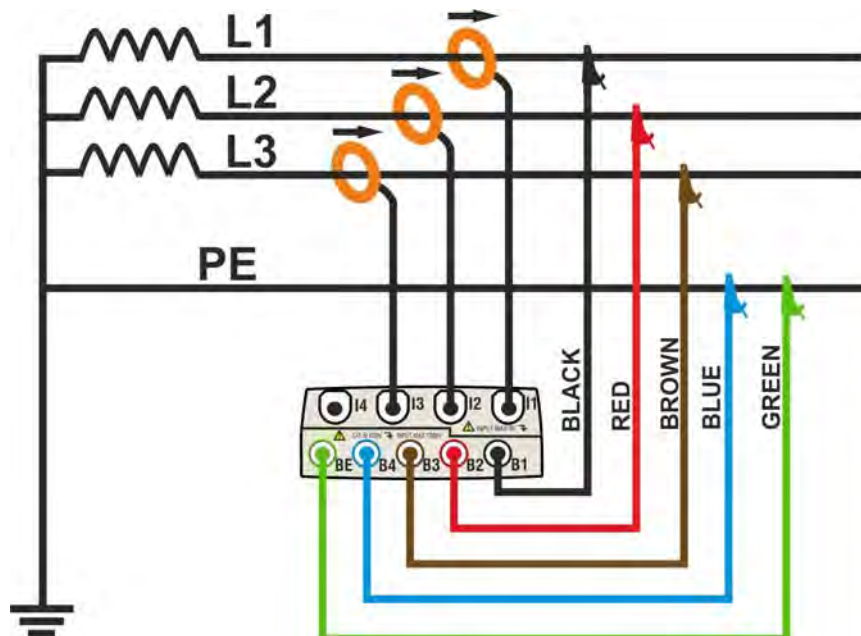

Fig. 134: Meter connection in a three phase 3WIRE system
2. Connect voltage test leads on Phases L1, L2, L3, and Ground cables respecting the colours as shown in Fig. 134. **Verify the result “123” at display relative to a correct phase sequence indication** (see § 5.2.1) and perform the corrections if necessary.
3. Connect the transducer current clamps on Phase L1, L2, L3 cables as shown in Fig. 134 respecting the clamp's arrow direction indicating the current standard sequence from generator to load. **On Real Time Values' section screens always verify the positive value of Active Power and the power factor relative to load which should be normally inductive** before starting a recording. Reverse the clamp by 180 degrees on cables in case of negative readings.